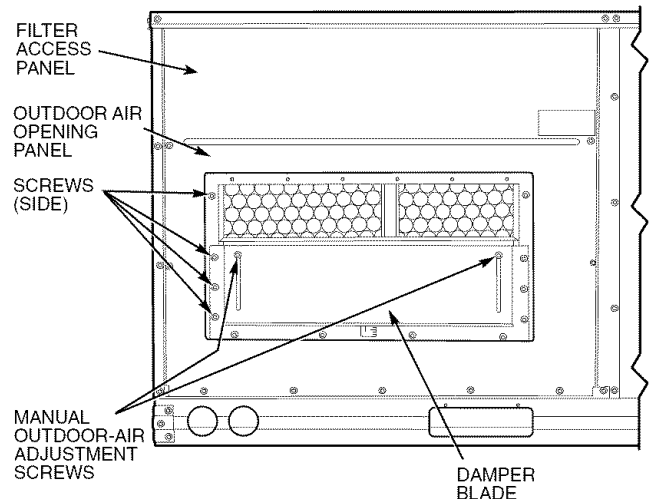
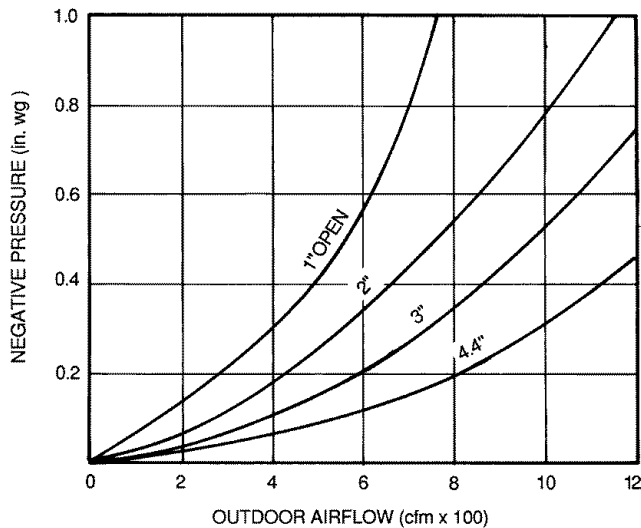

Fig. 11 — Damper Panel with Manual Outdoor-Air Damper Installed
Fig. 14 — Outdoor Air Damper Position Setting
- Remove the filter access panel by raising the panel and swinging it outward. The panel is now disengaged from the track and can be removed. No tools are required to remove the filter access panel. Remove the outdoor-air opening panel. Save the panels and screws. See Fig. 11.
- Adjust the minimum position setting of the damper blade by adjusting the manual outdoor-air adjustment screws on the front of the damper blade. See Fig. 11. Slide the blade vertically until it is in the appropriate position determined by Fig. 14. Tighten the screws.